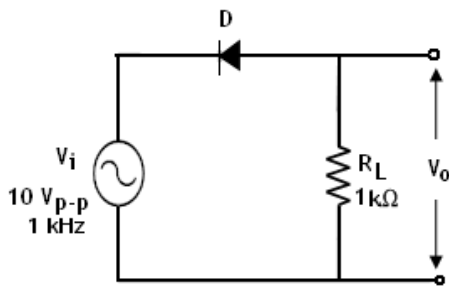

Figure 1: Unbiased Series Positive Clipper
1. Connect the circuit as shown in Figure 1.